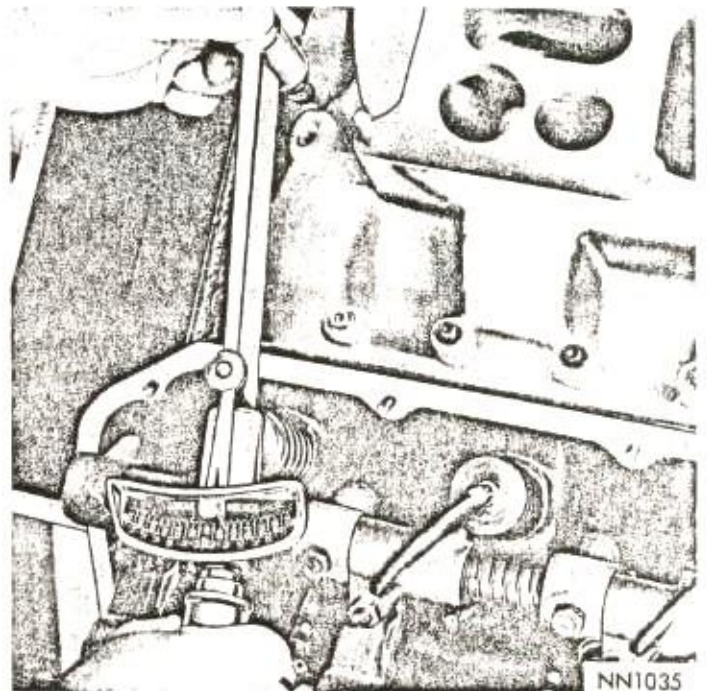

Fig. 5—Removing or Installing Manifold Attaching Screws
- (4) Remove the intake manifold attaching screws. One attaching screw is reached through the hole at rear of manifold. Use special Adapter Tool C-4021 (Fig. 5).
- (5) Remove intake manifold with ignition coil, both carburetors, fuel lines, fuel filters, throttle linkage and upper bellcrank as an assembly.
- (6) Disconnect exhaust headers from cylinder heads and tie out of way.